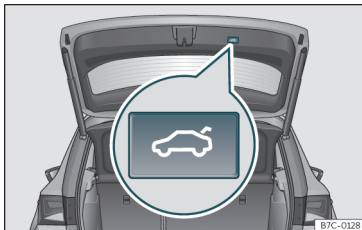

Fig. 78 Rear lid: button to close the rear lid.
- To close: hold one of the handles on the inner trim and close it by moving it downwards, or press the button on the rear lid* » Fig. 78.
- Briefly press the  button on the rear lid >>> Fig. 78 >>>  in Introduction on page 98.
Throughout the process of opening or closing the rear lid, acoustic warnings can be heard. Exception: when the rear lid is opened manually using the handle or the Easy Open function with the movement of the foot or closed using the button on the rear lid itself »» Fig. 78.
- Press the  button »» Fig. 78 on the rear lid for at least 3 seconds.